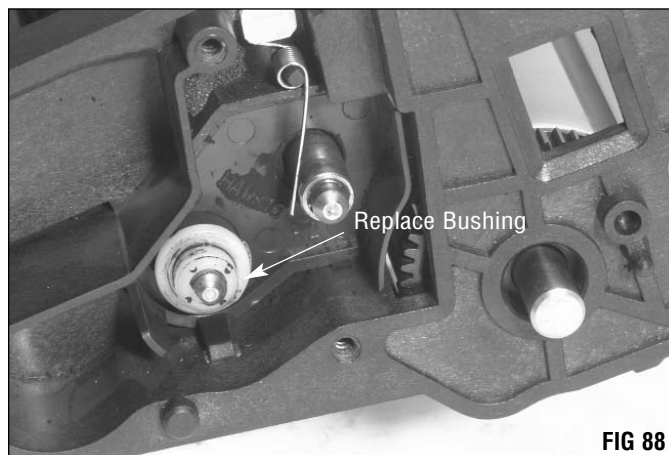

FIG 88
25. Replace the toner adder roller bushing (FIG 88)